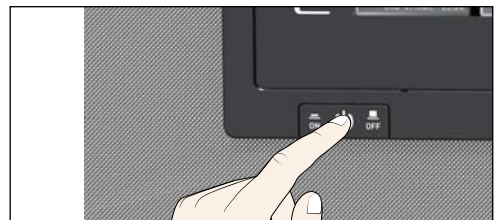

Fig. 24 Switching off the appliance
5. Switch off the appliance with the main switch (Fig. 24).